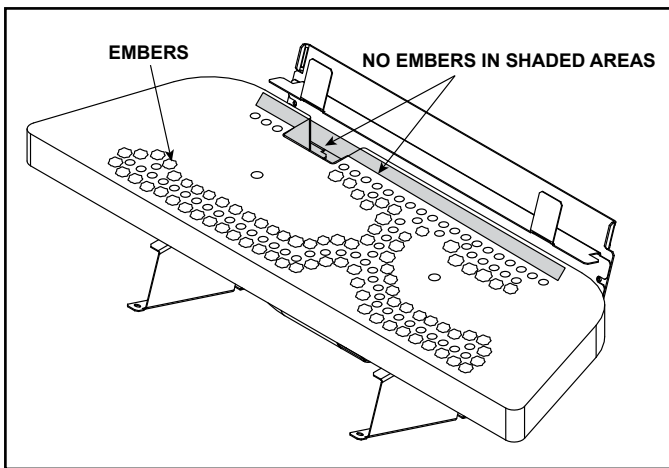

Figure 14.3 Placement of Embers
- Embers may only be placed in areas as shown in Figure 14.3.